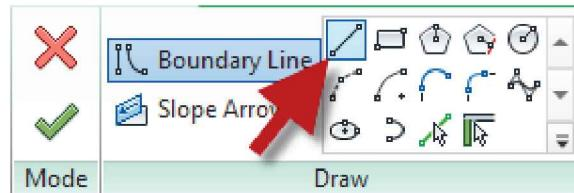

FIGURE 8-3.6 Roof sketch options
16. Select the **Line** tool from the *Ribbon* (Figure 8-3.6).